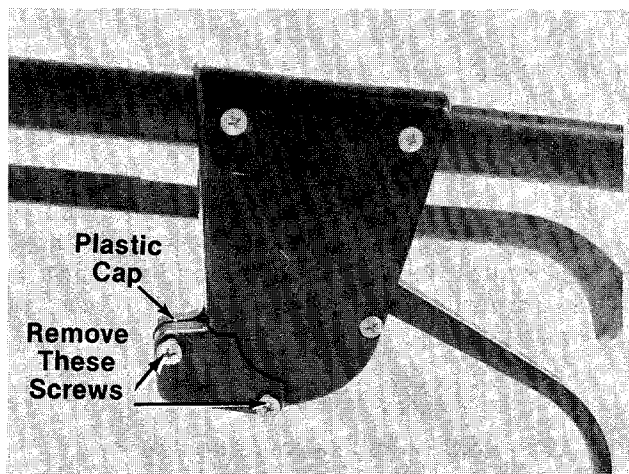

FIGURE 7.
14. Remove the two screws located beneath the clutch control housing on the upper handle as shown in figure 7. A Phillips screwdriver is required. Remove the plastic cap.